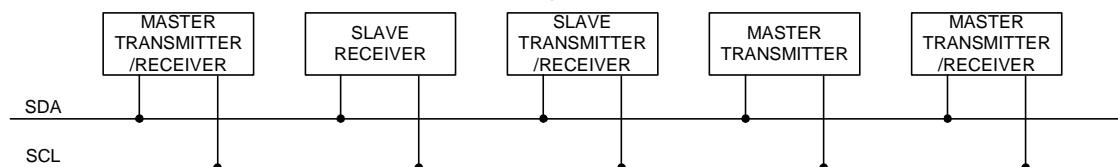
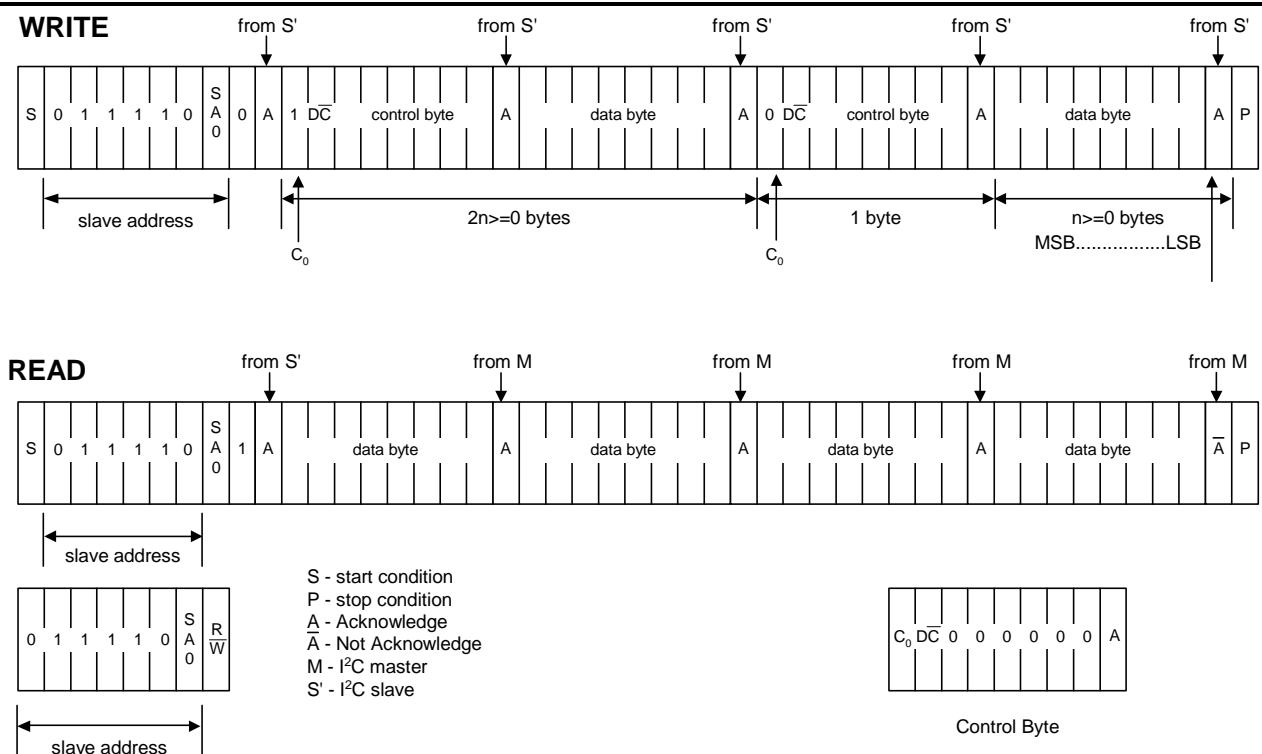

Figure 7 System configuration
Figure 9 I2C Protocol
The SH1107 supports both read and write access. The  $R/\bar{W}$  bit is part of the slave address. Before any data is transmitted on the I2C-bus, the device that should respond is addressed first. Two 7-bit slave addresses (0111100 and 0111101) are reserved for the SH1107. The least significant bit of the slave address is set by connecting the input SA0 to either logic 0(VSS) or 1 (VDD). The I2C-bus protocol is illustrated in Fig.7. The sequence is initiated with a START condition (S) from the I2C-bus master that is followed by the slave address. All slaves with the corresponding address acknowledge in parallel, all the others will ignore the I2C-bus transfer. After acknowledgement, one or more command words follow which define the status of the addressed slaves. A command word consists of a control byte, which defines Co and  $D/\bar{C}$  (note1), plus a data byte (see Fig.9). The last control byte is tagged with a cleared most significant bit, the continuation bit Co. After a control byte with a cleared Co-bit, only data bytes will follow. The state of the  $D/\bar{C}$ -bit defines whether the data-byte is interpreted as a command or as RAM-data. The control and data bytes are also acknowledged by all addressed slaves on the bus. After the last control byte, depending on the  $D/\bar{C}$  bit setting, either a series of display data bytes or command data bytes may follow. If the  $D/\bar{C}$  bit was set to '1', these display bytes are stored in the display RAM at the address specified by the data pointer. The data pointer is automatically updated and the data is directed to the intended SH1107 device. If the  $D/\bar{C}$  bit of the last control byte was set to '0', these command bytes will be decoded and the setting of the device will be changed according to the received commands. The acknowledgement after each byte is made only by the addressed slave. At the end of the transmission the I2C-bus master issues a stop condition (P). If the  $R/\bar{W}$  bit is set to one in the slave-address, the chip will output data immediately after the slave-address according to the  $D/\bar{C}$  bit, which was sent during the last write access. If no acknowledge is generated by the master after a byte, the driver stops transferring data to the master.